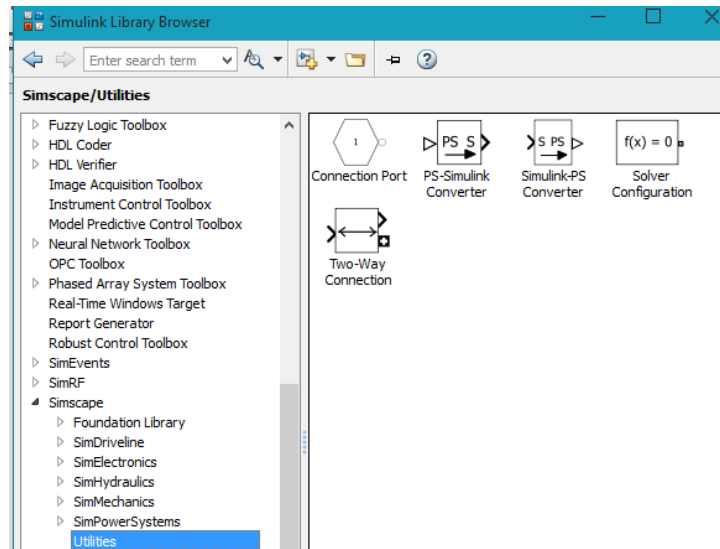

Figure 3.9: Simscape Utilities Library
10. Every time you connect a Simulink source or scope to a Simscape diagram, you have to use an appropriate converter block, to convert Simulink signals into physical signals and vice versa. Open the **Simscape > Utilities library** figure 3.9 and copy a Simulink-PS Converter block and two PS-Simulink Converter blocks into the model. Connect the blocks as shown in figure 3.9.
11. Each topologically distinct physical network in a diagram requires exactly one Solver Configuration block, found in **the Simscape > Utilities library** figure 3.9. Copy this block into your model and connect it to the circuit by creating a branching point and connecting it to the only port of the Solver Configuration block. Your diagram now should look like figure 3.10.